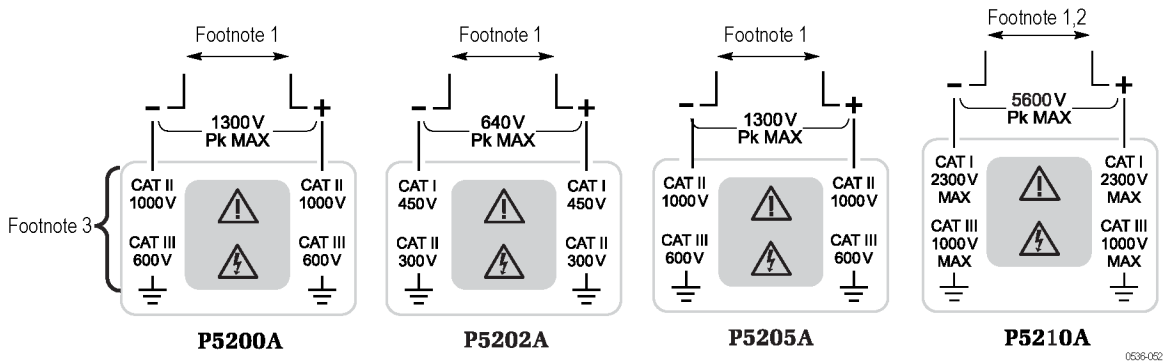

Figure 4: Specification table footnotes referring to the probe input limits shown on each probe label
- 1 This is the maximum measurable range between the (+) and (-) inputs of the probe. Beyond these limits, the output could be clipped. (See Figure 4.)